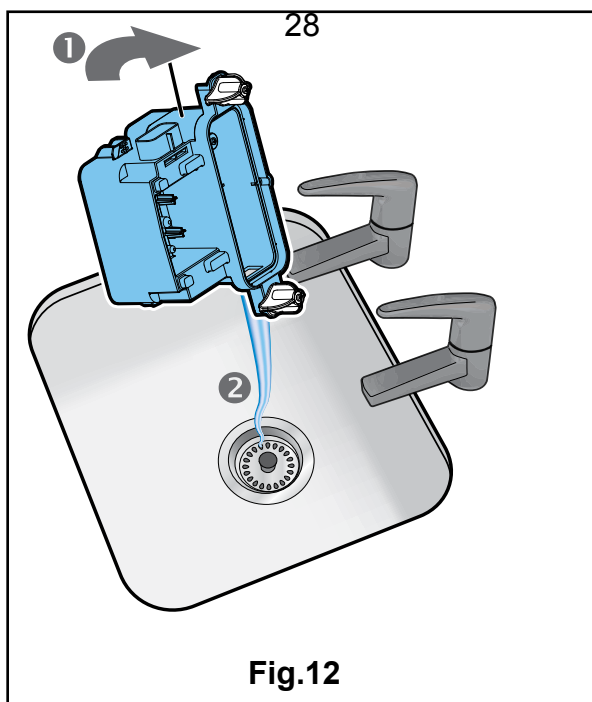

Fig.12
8. Carefully tilt, as shown, so that the liquid drains out of the sump. (See Fig.12)
The Metal Disc in the transducer might be dirty (See Fig.12)	Clean the Metal Disc with soft brush supplied. (See Fig.12) See 'Maintenance.' for a step by step procedure.